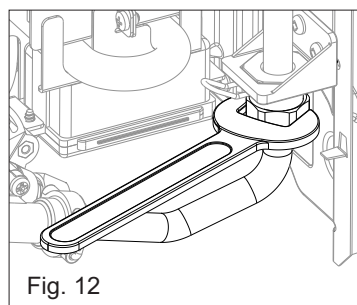

Fig. 12
- Loosen the nut shows in fig. 12
- Fix the nut shows in fig. 12